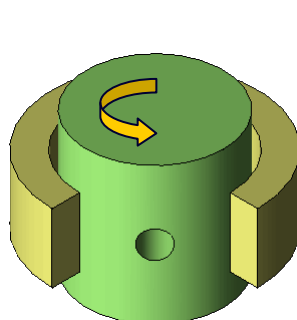

Fig. 3 Rotation Motion Model
- **Applicable models:** When it is possible to define the gap face of the mover and stator remaining the same from tip to tip in a cylindrical model (during rotation motion) or a flat model (during translational motion) (Figs 3 and 4).